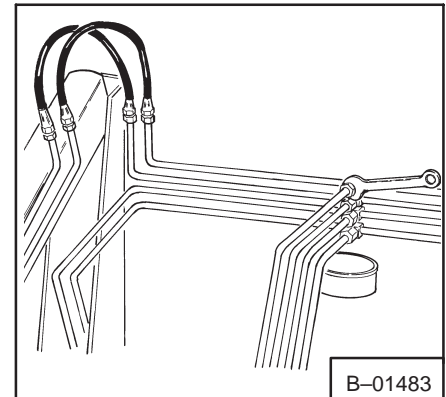

Fig. 27 Checking Tilt Cylinder Seals
2. Remove the top tube on the "T" at the rear of the machine. Plug the tube with a 1/2" NF SEA male plug (Fig. 27).